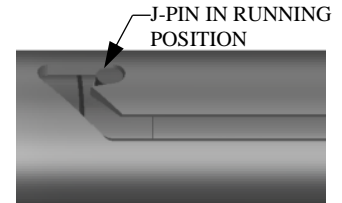

Fig. 7
- L-2.18) Move J-body (20) and drag block body assembly as needed to position J-pin in running position in J-slot (Fig. 7).
- L-3) Unclamp top sub (1) from vise and remove assembled tool.